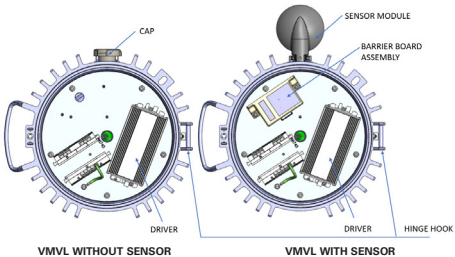

FIGURE 6
- 2. Close all unused conduit entries with conduit plugs provided. To prevent galling and to ensure watertightness, lubricate conduit plugs with Eaton's Crouse-Hinds series HTL lubricant before installing, and secure wrench-tight with at least five (5) full threads engaged. Torque plugs to 42-52 ft.-lbs. (57-71 N-m) for 3/4" and 20mm plugs and 58-68 ft.-lbs. (79-92 N-m) for 1" and 25mm plugs.
- 3. Hang LED luminaire on the cover module hinge hook. See Figure 6.